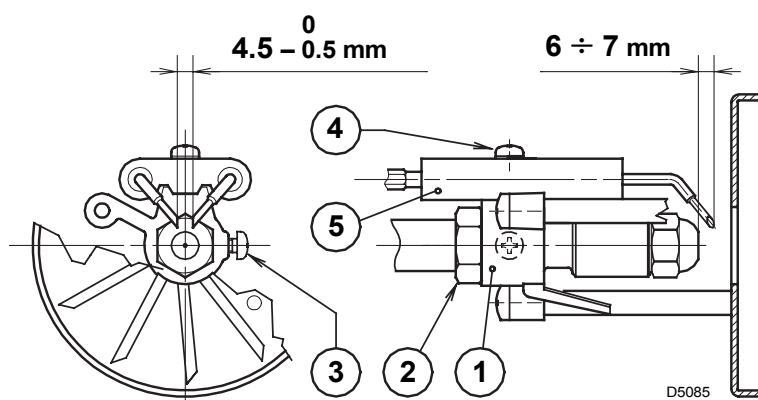

Fig. 12
- Remove nozzle-holder assembly (1) after loosening screws (2) and nuts (3), remove the small cables (4) from the control box and the photoresistance (5).
- Withdraw the small cables (4) from the electrodes, remove the diffuser disc-holder assembly (8) from the nozzle-holder assembly (1) after loosening screw (3, fig. 12, page 7).